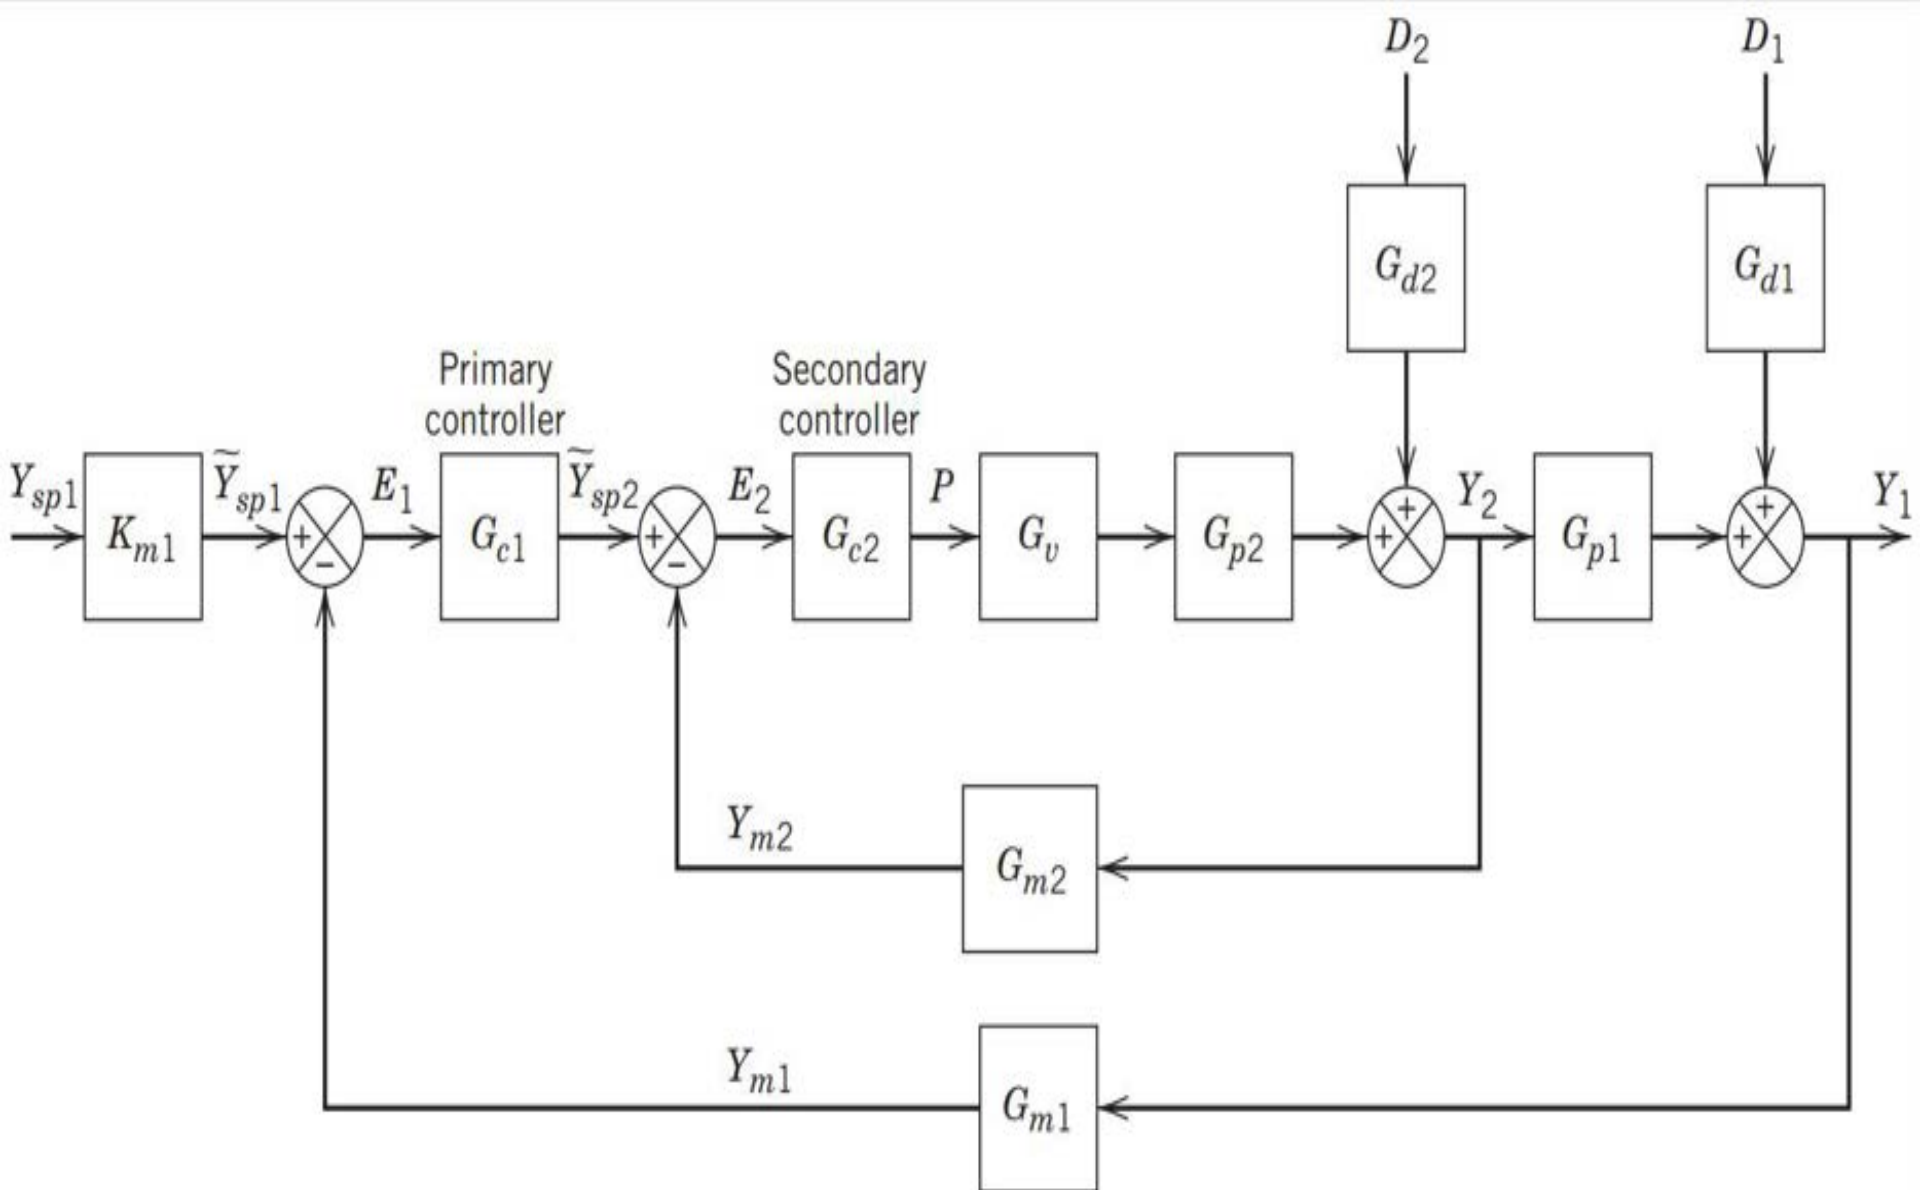

Figure 16.4 Block diagram of the cascade control system.
- Close the secondary loop with its own feedback (Seborg Fig. 16.4):